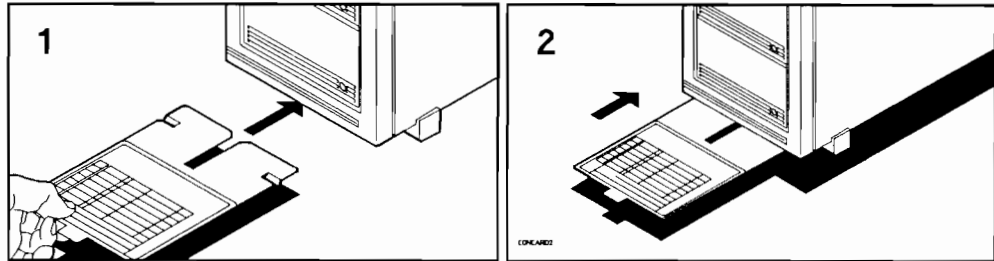

Figure 1-6. Pull-out Configuration Card
The pull-out configuration card provides space to record configuration information about mass storage devices and the host SCSI interface card (see Figure 1-6). This information is useful when configuring your mass storage system into the host operating system.
4. Write the device SCSI address on the pull-out configuration card (see Figure 1-6). Use a space on the card that corresponds to a shelf occupied by the device.